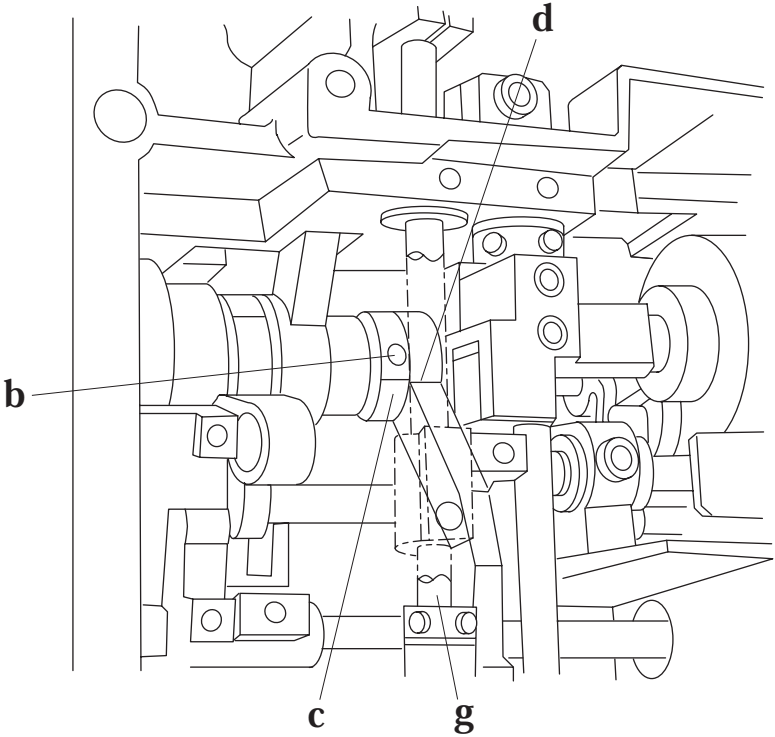

Fig.6
2. Make sure that there is no axial play on chain looper shaft "**a**". If necessary, adjust with stop collar inside shaft "**g**" in Fig.6 in page 11c.